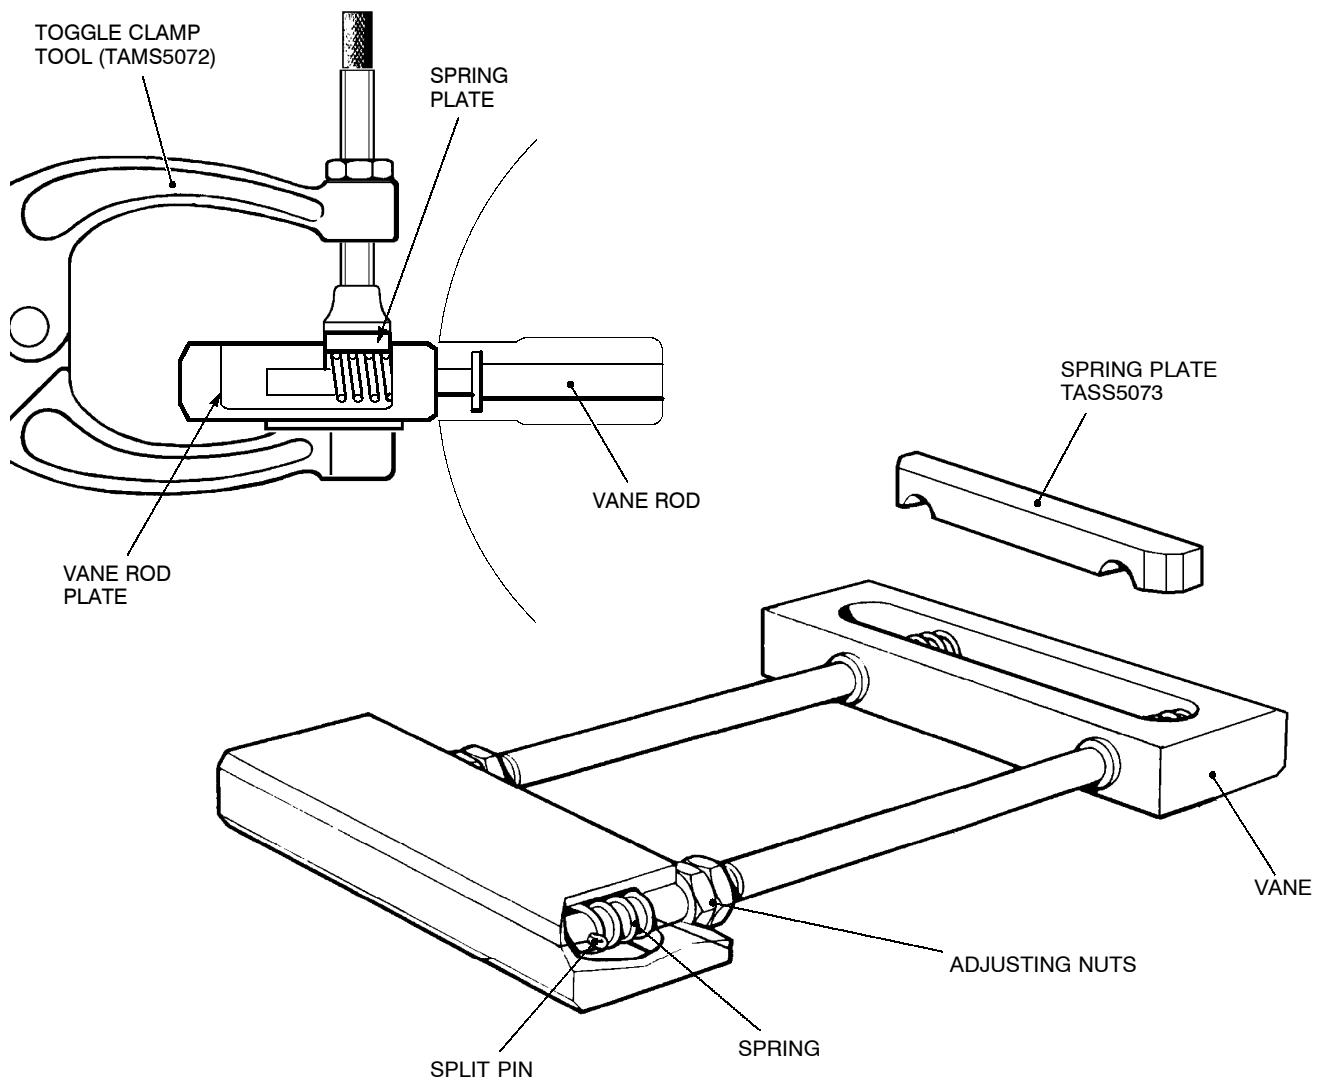

FIG 5.3 USE OF TOGGLE CLAMP TOOL TAMS5072
- 5.12 Remove the split pins (44) from each vane rod (40). Place Spring Plate over springs (42). Set the toggle clamp tool to 26mm (1.031 in) and place CENTRALLY in position over vane as shown in Fig. 5.3